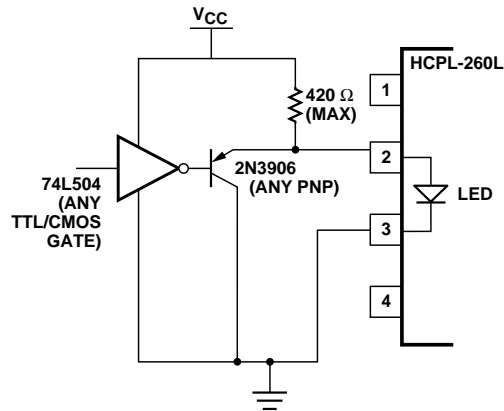

Figure 15. TTL interface circuit.
1. Use of drive circuits where current is shunted from the LED in the LED "off" state (as shown in Figures 15 and 16). This is beneficial for good CMR_H .
Figure 15 shows a circuit which can be used with any totem-pole-output TTL/LSTTL/HCMOS logic gate. The buffer PNP transistor allows the circuit to be used with logic devices which have low current-sinking capability. It also helps maintain the driving-gate power-supply current at a constant level to minimize ground shifting for other devices connected to the input-supply ground.